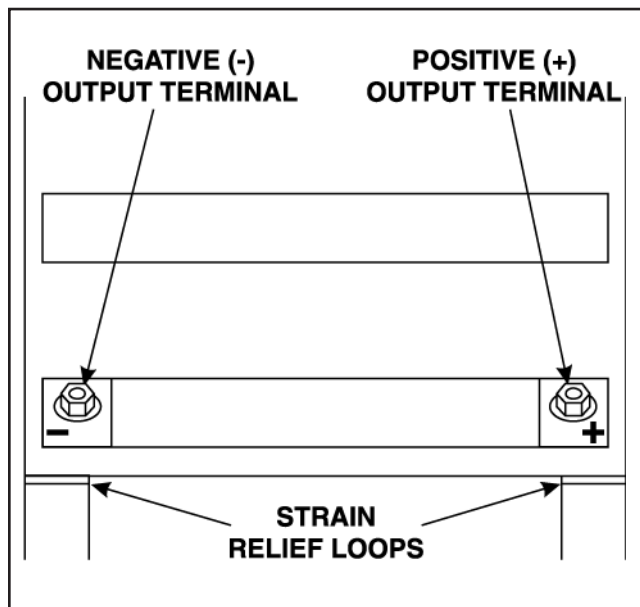

FIGURE A.5 - Output Terminals.
2. Locate the retractable strain relief loops directly below the output terminals in the lower right and lower left corners of the Case Front Assembly. See Figure A.5.